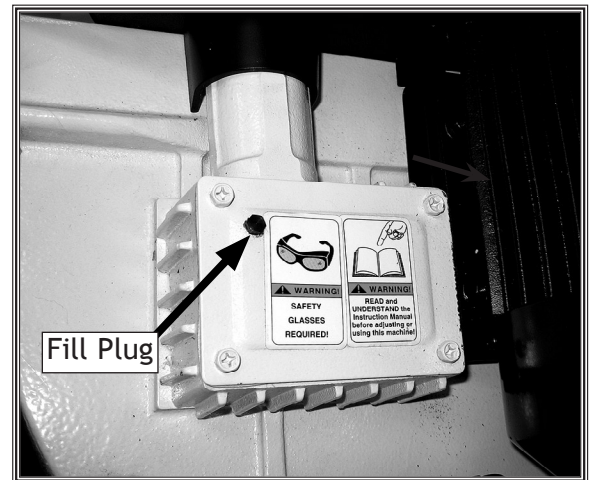

Figure 43. Gear box.
- **Gear Box:** With the headstock in the down position, wipe all dirt and metal from the fill plug, remove it, and check or add 80W-90W gear oil (see **Figure 43**). Change the oil every six months under heavy use; otherwise, change it annually.